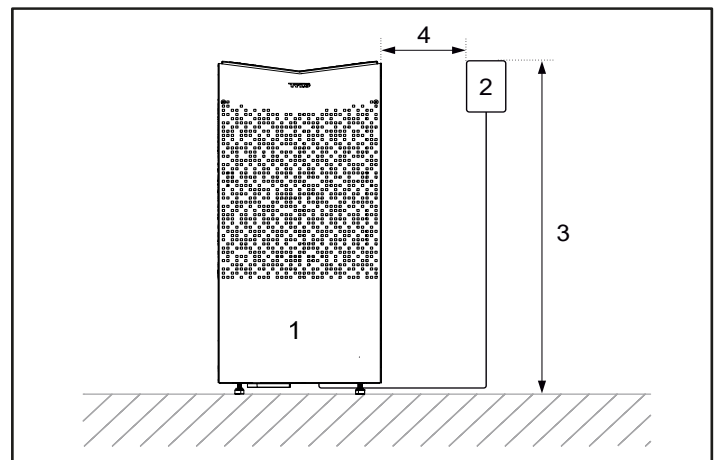
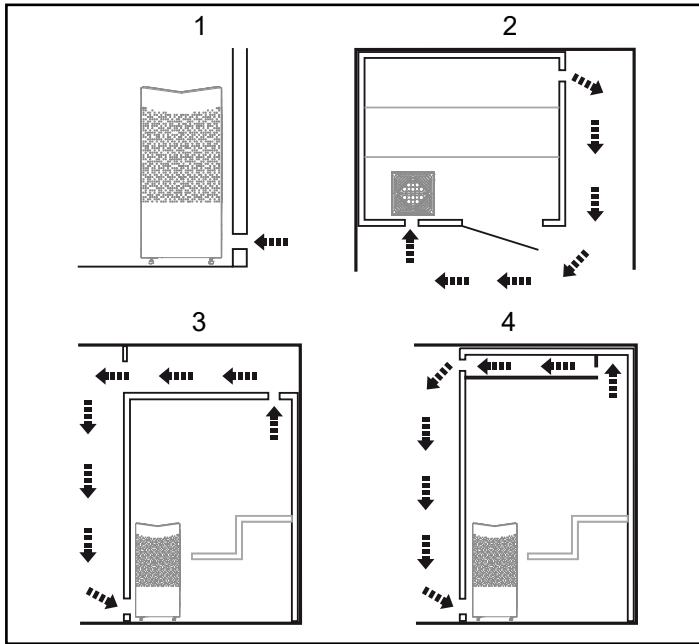

Figure 5: Safety distance / installation height, control panel
Figure 6: Positioning the air intake and exhaust vents
- Plan the control panel positioning (see the attached instructions for the control panel for allowable positioning). See also the Control Panel section, Figure 5.
- Position the air intake vent (see the Air intake vent positioning section, Figure 6).
- Position the air exhaust vent (see the Air exhaust vent positioning section, Figure 6).
Where possible, placement of the control panel outside the sauna room is recommended due to lower ambient temperatures. The control panel may be placed inside a Tylö sauna room or a self-built sauna room with correct ventilation which operates according to Tylö-recommended ventilation (natural ventilation principle). Read the sections titled, Positioning the intake vent and Positioning the outlet vent in these instructions, figure 6. The control panel must always be placed outside the sauna cabin if these requirements are not met. If installing the control panel inside the sauna cabin, it should be positioned with regard to safety distances and installation height, see Figure 5.
- at the maximum possible distance from the air intake vent, e.g. diagonally (see Figure 6).
- high on the wall or in the ceiling (see Figure 6).